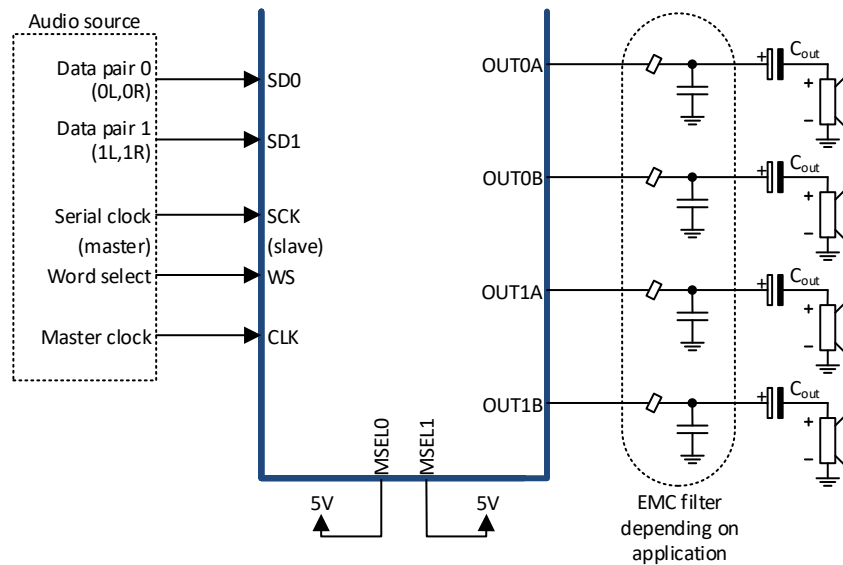

Figure 9-2 Four channel, single ended (SE) configuration.
In single ended (SE) configuration, the MA12070P is able to drive one loudspeaker per output power stage, i.e. up to four loudspeakers. The output is biased to half the power supply voltage,  $\frac{1}{2} PVDD$ . One of the solutions to drive a speaker in this configuration is to use AC-coupling capacitors ( $C_{out}$ ) in series with the load, as shown in Figure 9-2. The value of the capacitors depends on the load resistance and the desired audio bandwidth.